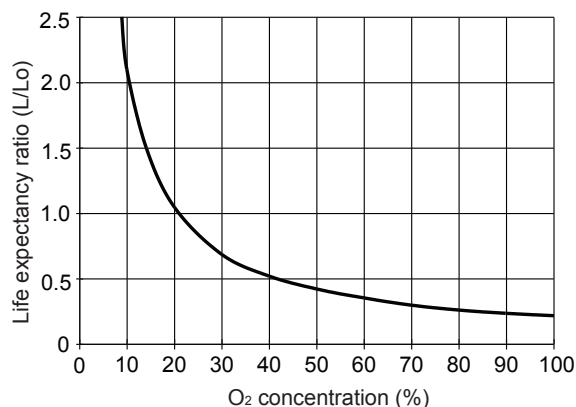

Fig. 9a - Relationship of life expectancy vs. O₂ concentration (Lo = life at 20.7% O₂)
Figure 9a shows the relationship between life expectancy and O₂ concentration for KE sensors. The Y-axis indicates the ratio of life expectancy in a given O₂ concentration (L) to life expectancy in natural air (L₀). The greater the O₂ concentration, the shorter the life expectancy. The influence of atmospheric pressure on life expectancy is estimated based on the O₂ concentration in a given atmospheric pressure.